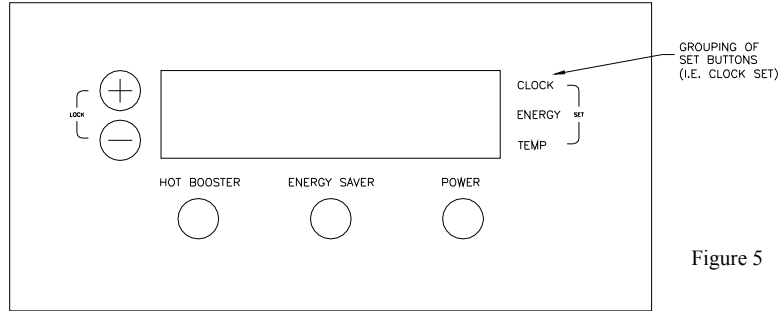

Figure 5
2. Press the "POWER" button on the cooler display (see figure 5), the clock will flash 12:00 AM.